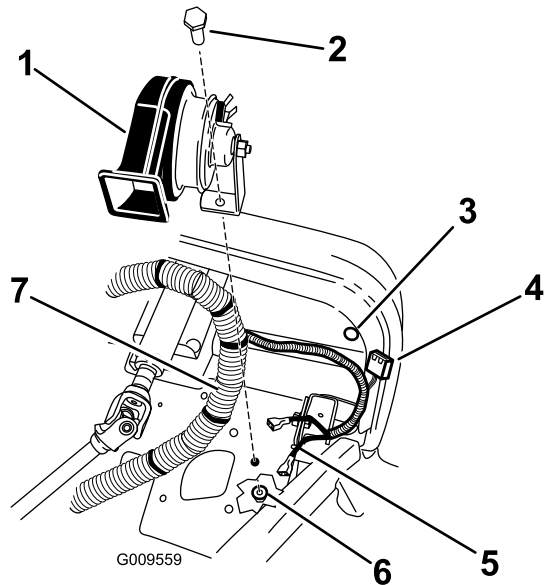

Figure 1
3. Install the horn to the mount plate at the existing hole as shown in (Figure 1). Secure the horn with a flange bolt (5/16 x 3/4 inch) and lock nut (5/16 inch).
2. Install the horn to the mount plate at the existing hole as shown in (Figure 1). Secure the horn with a flange bolt (5/16 x 3/4 inch) and lock nut (5/16 inch).